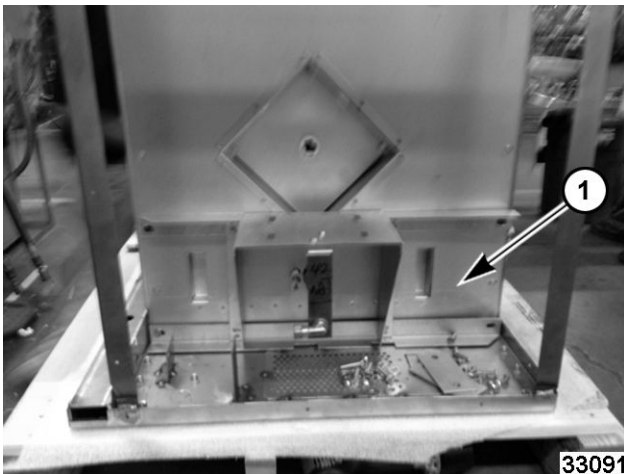

Fig. 14
7. Remove motor mount cover (1, Fig. 14).